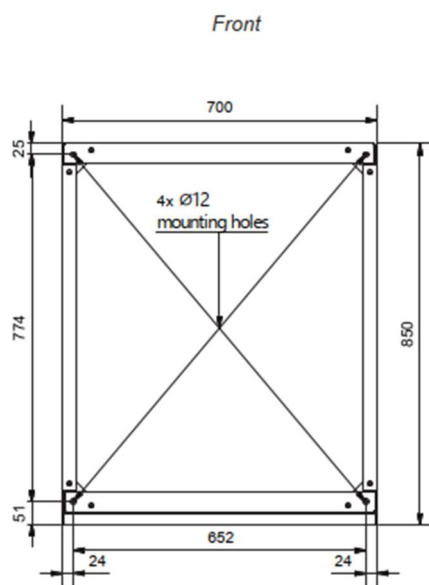

Figure 7: Drilling template – bottom view
- Fix chains or straps (minimum length 1 meter) to all lifting lugs (see Figure 7), securely lift and move system to the desired position